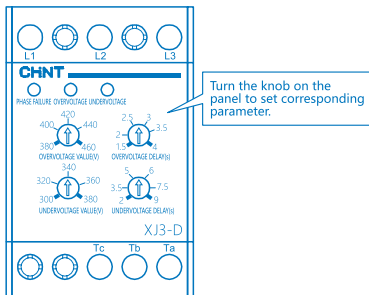

Figure 5 XJ3-D panel drawing
3.3 Product panel drawing: see Figure 5; before starting the product, set overvoltage value, overvoltage delay, undervoltage value and undervoltage delay first.